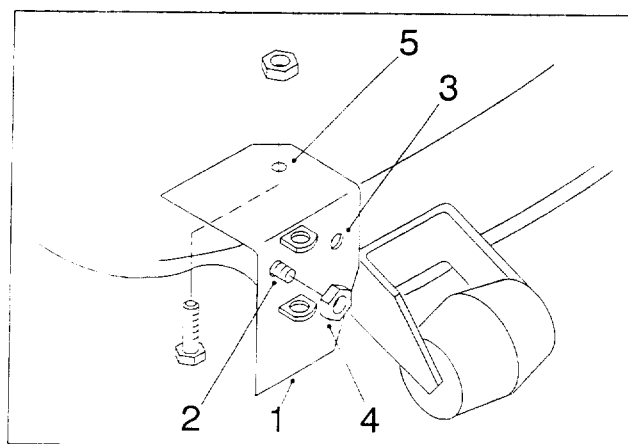

Figure 2
1. Slide the pivot support onto the threaded rod that is welded onto the front of the mower near the discharge opening (Fig. 2).
Note: The pivot support has one hole for mounting it to a 42" mower and a different hole for a 48" mower (Fig. 2). Use the hole for a 42" mower for this installation.
2. Screw the $\frac{3}{8}$ " deflector jam nut (Fig. 2) onto the threaded rod until the nut is flush with the end of the rod.
4. Drill an $\frac{11}{32}$ " diameter hole in the mower, using the hole in the pivot support as a template (Fig. 2). Remove the clamp after you drill the hole.